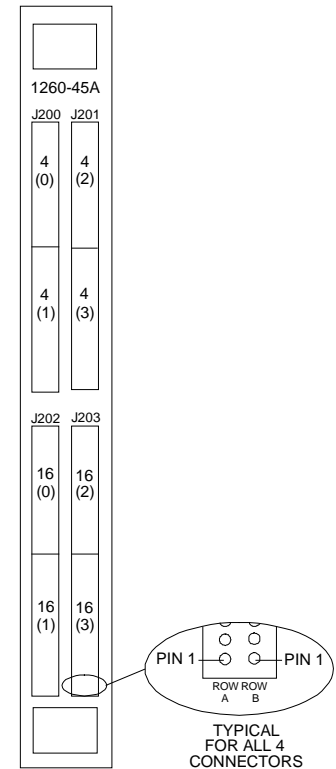

Figure A-4, 1260-45A Quad 4X16 Matrices
- * 1260-45A Quad 4x16 matrices (no jumpers) (See **Figure A-4**)